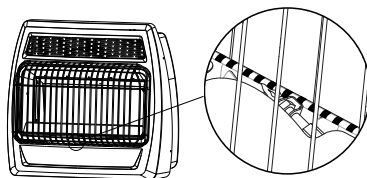

Fig. 24
6. With control knob depressed, push down on the ignitor button until the pilot lights. The pilot is visible centered below the plaques, behind the front grill. (See Fig. 24 on page 19)
7. Keep control depressed for (30) seconds after pilot lights. Release control knob.
6. With control knob depressed, push down on the ignitor button until the pilot lights. The pilot is visible centered below the plaques, behind the front grill. (See Fig. 24)
7. Keep control knob depressed for (30) seconds after pilot lights. Release control knob.